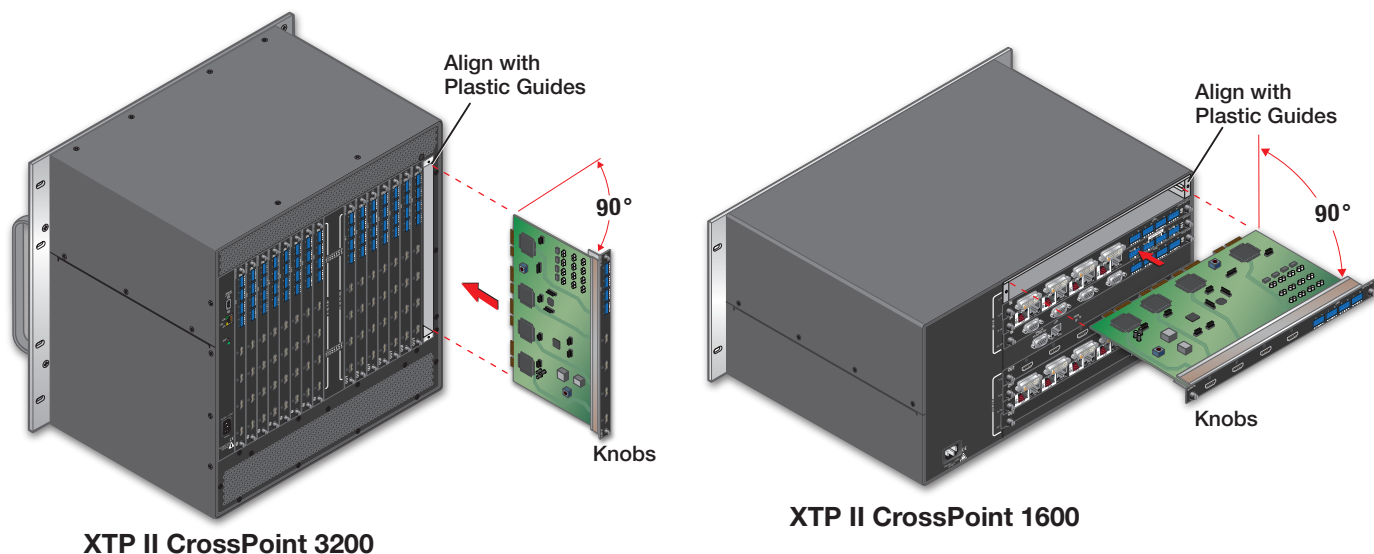

Figure 39. Input or Output Board Replacement
2. Rotate the top and bottom (XTP II CrossPoint 3200 or XTP II CrossPoint 6400) or left and right (XTP II CrossPoint 1600) knurled knobs (see figure 39 on the next page) to completely loosen the screws.
2. **For an input or output board**, align the board with the top and bottom (XTP II CrossPoint 3200 or XTP II CrossPoint 6400) or left and right (XTP II CrossPoint 1600) chassis guides (see figure 39).